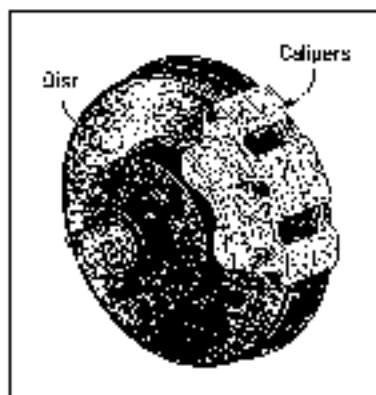

Figure 4-13:
4. The wheel has either a disc brake or a drum brake. To keep it simple, I'll just look at disc brakes here. (Drum brakes work on the same general principles: see Chapter 10.) A disc brake is composed of a flat steel disc (surprise!) sandwiched between a pair of calipers, as shown in Figure 4-13. These calipers contain one or more little pistons that are forced into the disc by the brake fluid.